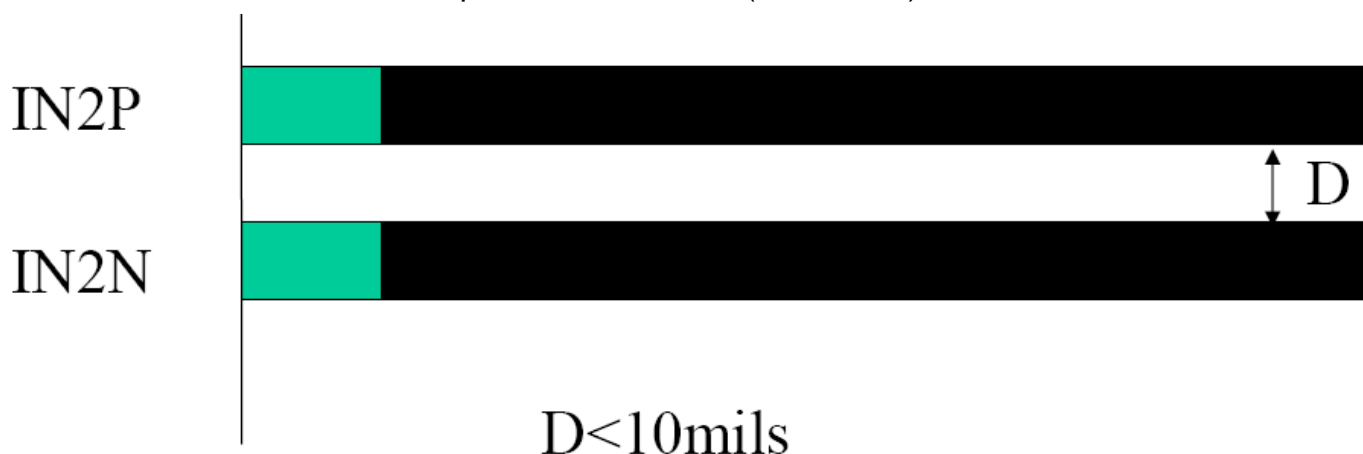

**Figure4.**The special routing for mic input signal( $D \leq 10$ mils)
2. The IN1 and IN2 microphone input signals are more sensitive than the other signals. These two signals may route to the other layer if possible, and we can see that in Figure 4. In Figure 4, IN2(used as linein) input signal are routing on layer1. But IN1 microphone input are routing on layer2 between codec and phone jack input.